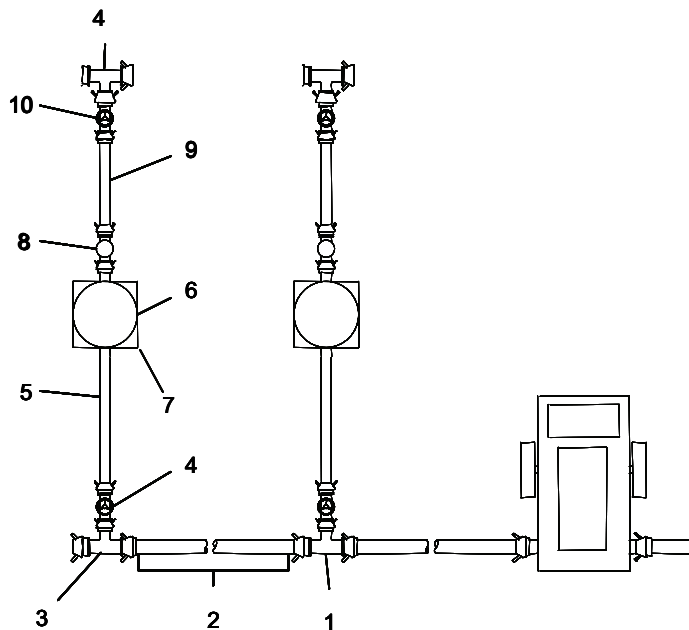

Figure 13. Installation of Filter-Separators.
19. Connect the 6 in. x 10 ft. discharge hose (Figure 13, Item 2) to the 6M x 6F x 4M tee assembly (Figure 13, Item 1).
21. Connect the 6 in. x 10 ft. discharge hose (Figure 13, Item 2) to the 6M x 6F x 4F tee assembly (Figure 13, Item 3).
23. Connect gate valve (Figure 13 Item 4) to the 6M x 6F x 4M tee assembly (Figure 13, Item 3).
25. Connect the 4 in. x 25 ft. discharge hose (Figure 13, Item 5) to the 4 in. gate valve (Figure 13, Item 4).
28. Place filter-separator (Figure 13, Item 6) into the spill berm (Figure 13, Item 7).
29. Ground filter-separator (Figure 13, Item 6) per Chapter 2 in FM 10-67-1.
30. Connect 4 in. x 25 ft. discharge hose (Figure 13, Item 5) to filter-separator (Figure 13, Item 6).
31. Remove the sampling probe adapter from side of the filter-separator (Figure 13, Item 6).
32. Connect sampling probe adapter (Figure 13, Item 8) to the filter-separator (Figure 13, Item 6).
34. Connect the 4 in. x 25 ft. discharge hose female end (Figure 13, Item 9) to the sampling probe adapter male end (Figure 13, Item 8).
37. Connect the gate valve (Figure 13, Item 10) to the 4 in. x 25 ft. discharge hose (Figure 13, Item 9).
38. Connect the gate valve (Figure 13, Item 10) to the 6M x 6F x 4F tee assembly (Figure 13, Item 11).